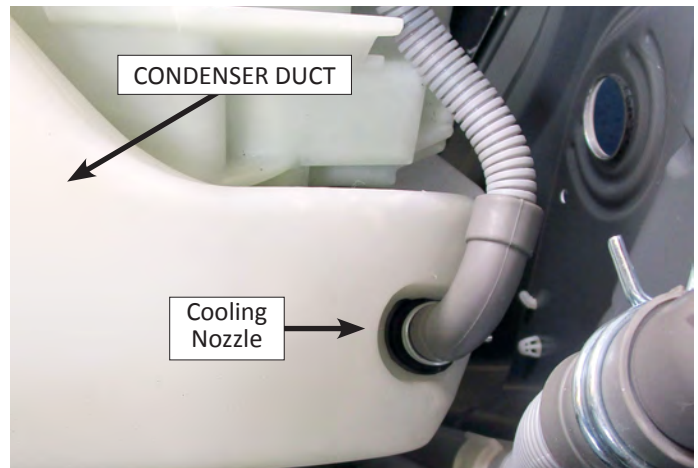

Figure 2
8. Use needle nose pliers to remove the clamp and hose from the cooling nozzle on the top of the condenser duct. See Figure 2.